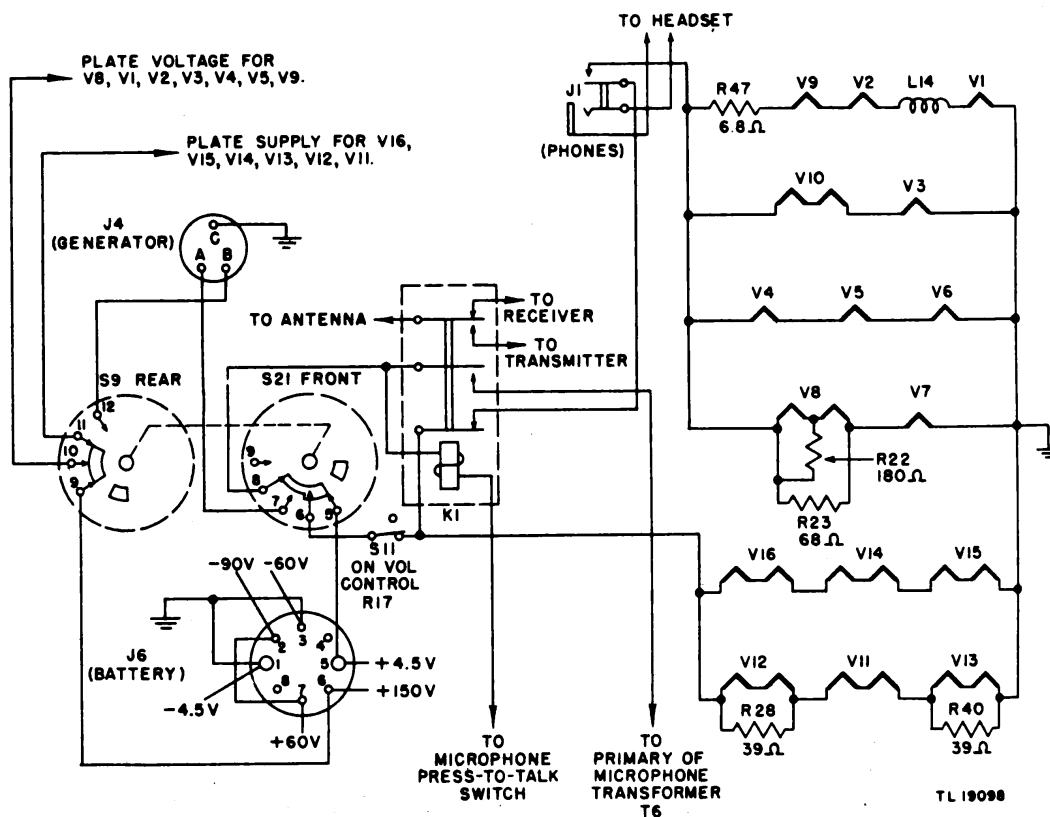

Figure 66. Control and power supply circuits.
a. Power required by Receiver-Transmitter RT-53/TRC-7 is furnished by Battery BA-70 or Generator G-3/TRC-7 or a combination of the two, depending on the setting of the POWER switch on the front panel. With the switch set to BAT., the battery furnishes all power for the radio set. The 150-volt plate supply is connected to contact 9 on the rear of switch S9 and through contacts 10 and 11 to the plate circuits of both the receiver and transmitter (fig. 66). The 4.5-volt source is connected to contact 5 on the front section of the switch, S21, through contact 6 to the filament circuits and contact 8 to antenna switching relay K1 and the microphone.